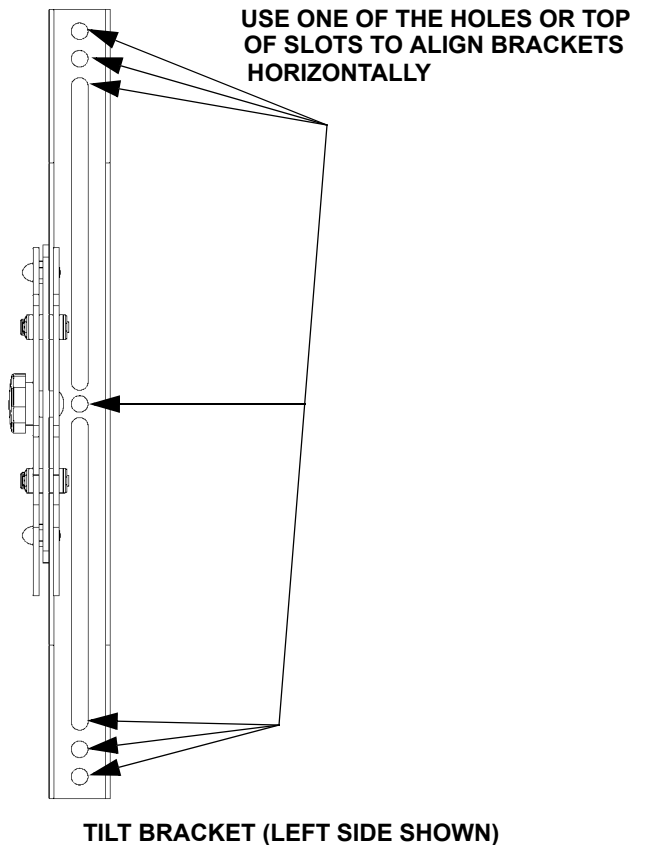

Figure 2. Place Interface Brackets on Display
1. Place the left and right factory assembled interface bracket assemblies (20 and 30) on the back of the display (see Figure 2).